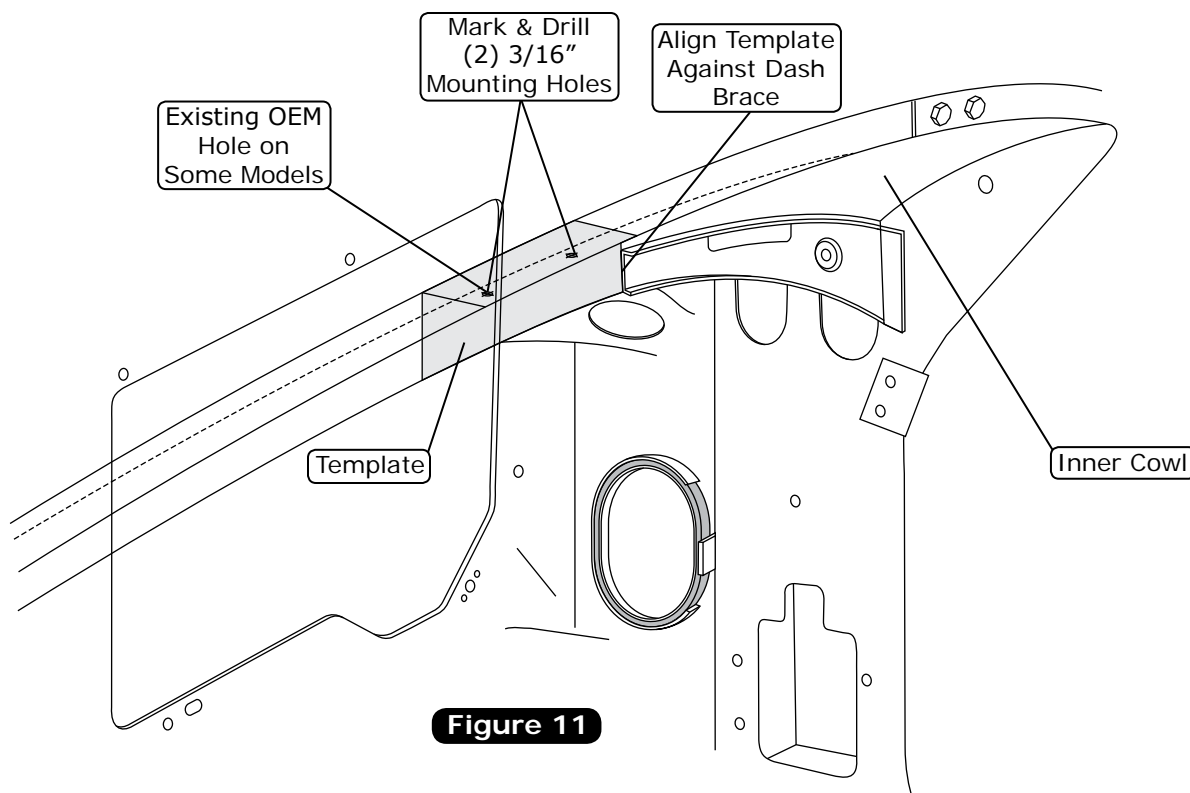

Figure 11
1. Cut out the template provided on Page 29. Place the template under the dash on the inner cowl as shown in Figure 11, below.
2. Once the template is aligned correctly against the dash brace, tape the template into place. Mark the mounting hole locations on the inner cowl. Once the holes are marked in the correct location, drill (2)  $\frac{3}{16}$ " holes in the inner cowl for the front evaporator mounting bracket (See Figure 11, below). **NOTE: Some models may have an OEM hole in the inner cowl as shown in Figure 11, below.**